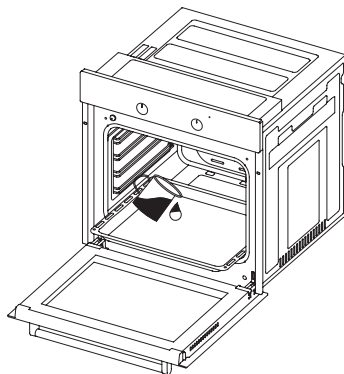

Figure 1
2. Pour half a litre of water into the drip tray, as shown in Figure 1